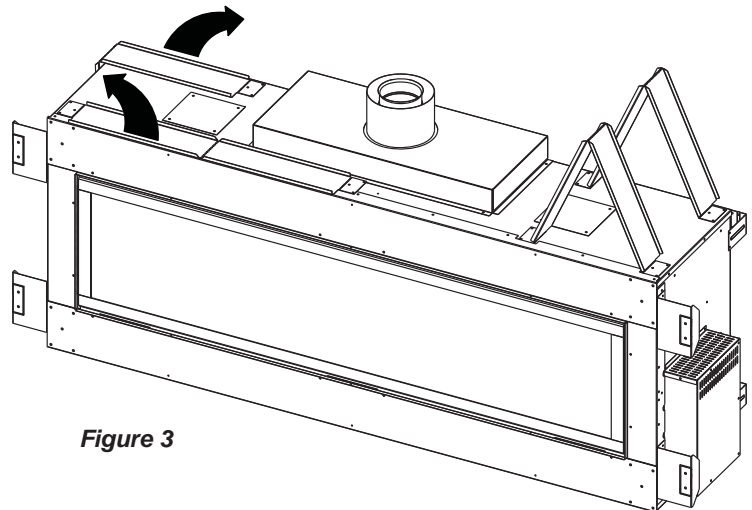

Figure 3
Unfold standoffs into upright position and fasten into place using #8 screws provided, three (3) screws per standoff. Figure 3